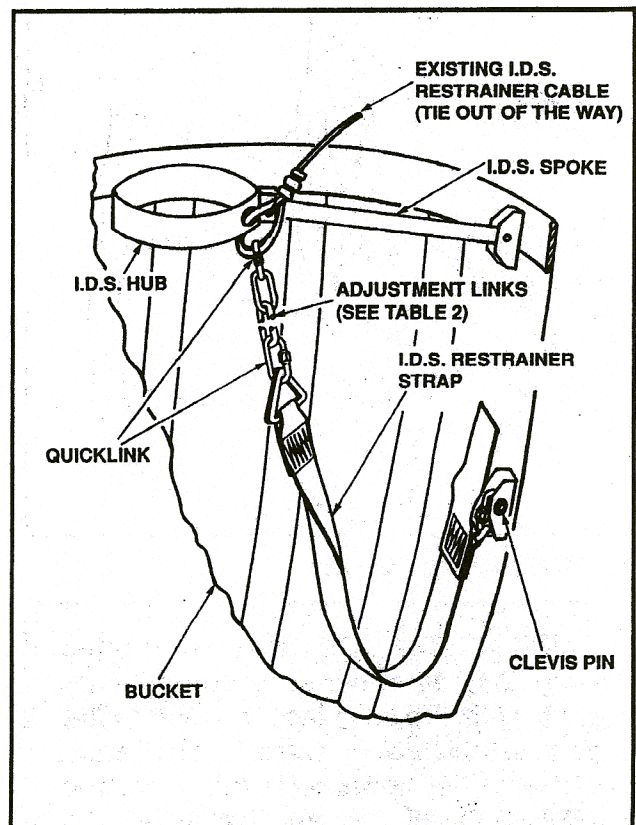

Fig. 4: I.D.S. restrainer strap installation.
3. Adjust the chain connected to the I.D.S. restrainer strap, to the length which corresponds to your bucket size (see Table 2) then connect a 1/4" quick link. Attach the quick link to the I.D.S. hub as shown in Fig. 4.